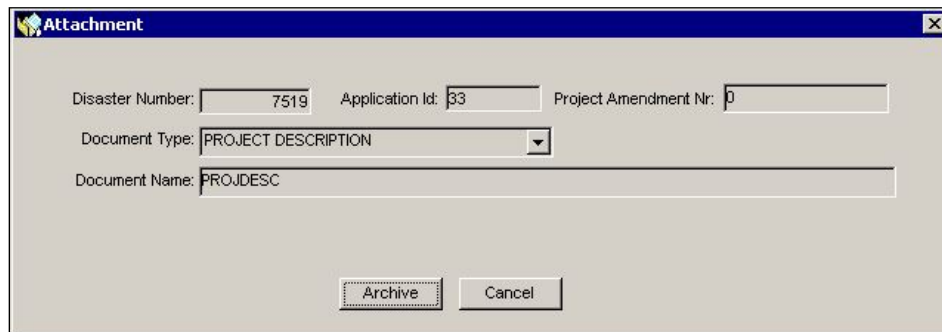

Figure 6-23: Attach Document Dialog Box
5. Click the ATTACH button. The Attach Document dialog box is displayed (Figure 6-23). Note that the Document Type defaults to "PROJECT DESCRIPTION."